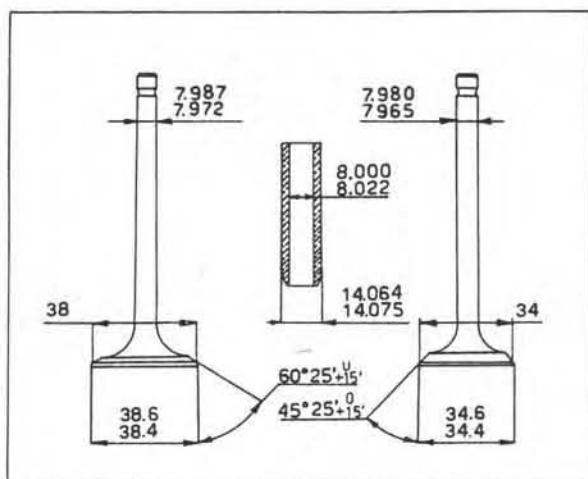
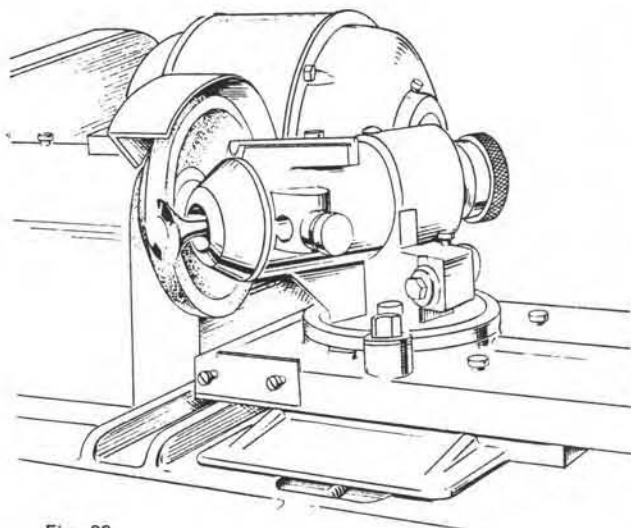

Fig 20
Fig. 22
**V7-700 cc.** (see fig. 20)
Check valves condition and existing lash between stem and guide (for clearance refer to coupling data chart and Fig. 20). To regrind valves, insert valve stem in self-centering chuck of Universal Grinder (see Fig. 22) and adjust chuck swivel table so that valve will have an angle of inclination as follows: